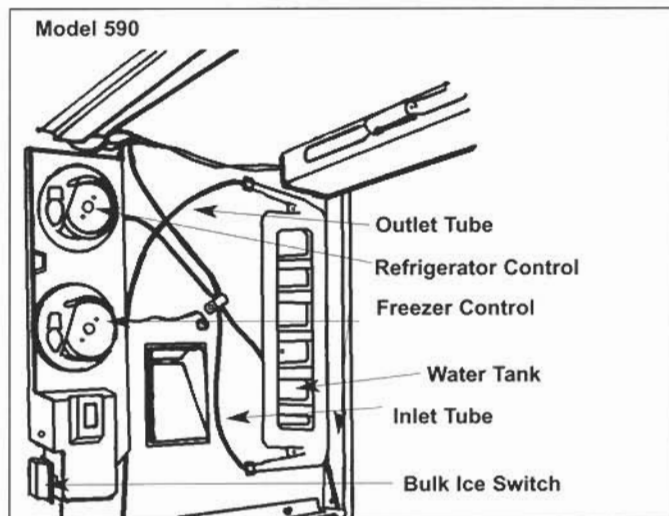

Figure 2-63. Control Panel
1. Remove the water tank cover to access the bulk ice switch (Figure 2-63).
3. Remove the three panel screws (Figure 2-63).
The water tank reservoir is held in place with three screws (Figure 2-63). The inlet tube at the bottom draws water in from the water valve, the outlet tube at the top carries the water to the dispensing unit.